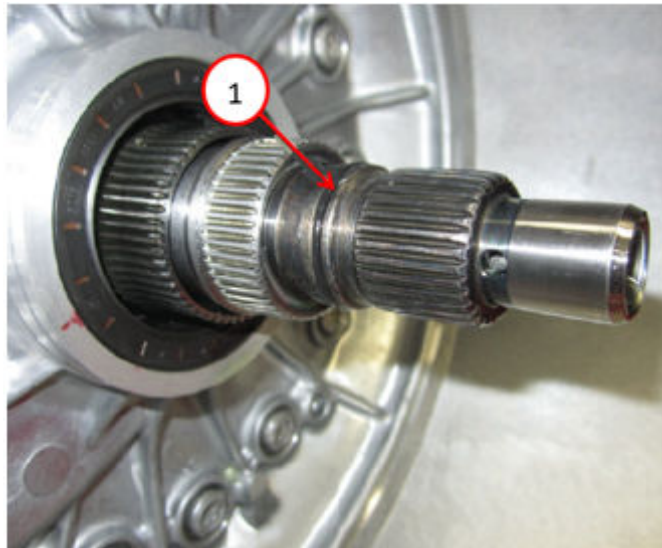

Fig. 13
22. Remove the input shaft O-ring using a small pick or equivalent Fig. 13.